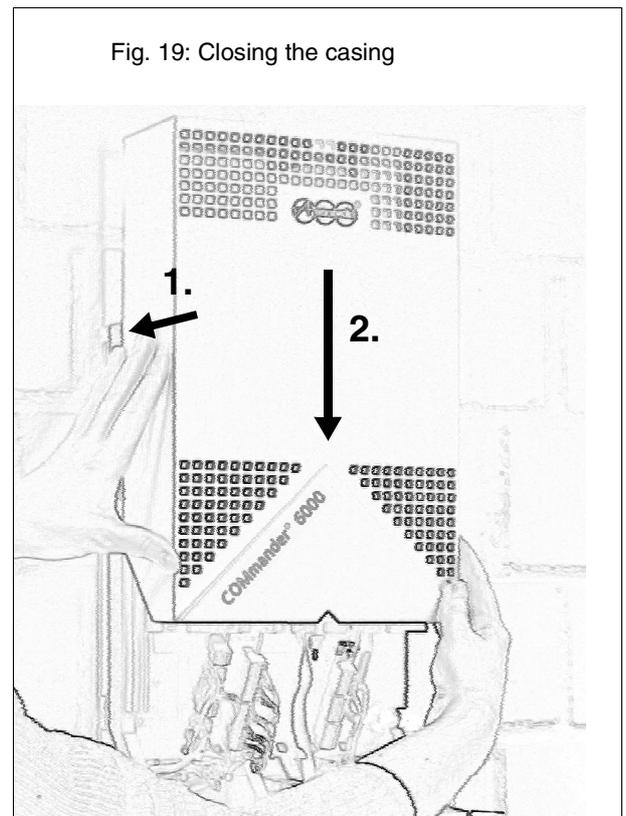

Fig. 19: Closing the casing
1. Place the casing cover approx. 15 cm towards the top by sliding it straight onto the casing. See Fig. 19.